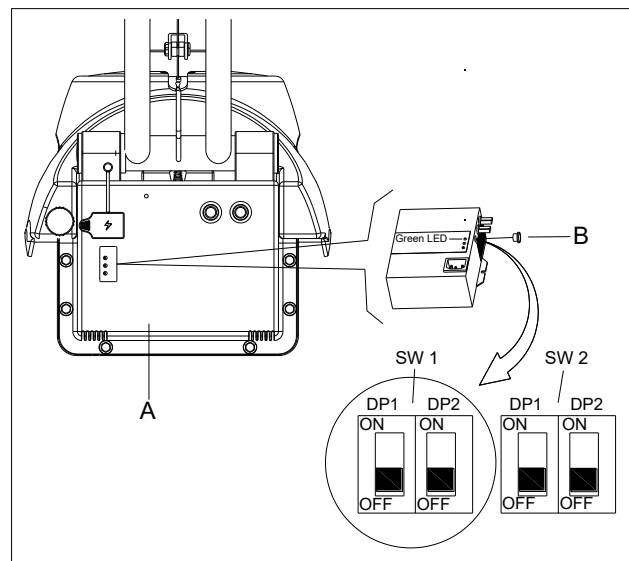

Figure 4
1. Turn off the machine and disassemble the cover (A as Figure 4) from the machine. Then remove the round black cap located on the front side of the charger (B as Figure 4). You will find the 2 sets of dipswitches (SW1 and SW2) in the charger.